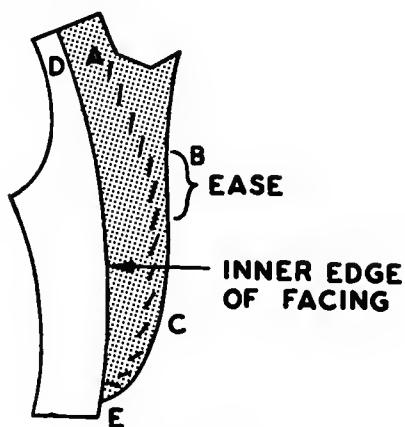

Fig. 181. Basting the facing into position.
- A. Baste down the breakline and continue down the coat front, beginning at A, Figure 181, about 4 in. from the shoulder.
- D. Hold the facing tight around the curve at the bottom of the jacket between C and E, Figure 181. From the top button, B, to the bottom of the coat, E, hold the seamline over the edge of the table in order that the coat rolls toward the facing when finished.
- E. With the facing side up, baste along the inner edge of the facing from D to E or on the facing-lining seam if the lining was attached (Fig. 181).
- B. At B, Figure 181, in the region of the top buttonhole, push in the slight fullness on the facing for a space of 2 in. so as to allow for lapel roll at the bottom of the breakline.